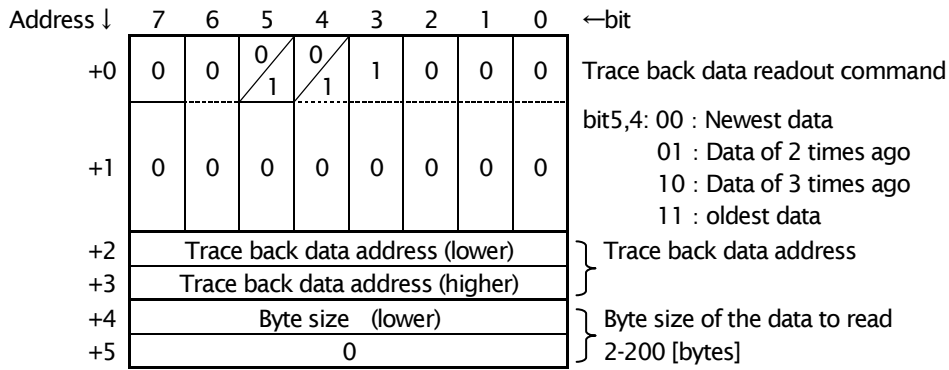

Figure 3.18 Data composition of the data write-in demand SDU (Trace back data readout command)
- 1) Master station transmits the data write-in demand shown in figure 3.18 to OPCN66-Z, and directs readout of trace back data, and trace back data address, and the total byte size of the data to read. Since all data sizes are 1 word (2 bytes), the byte size of data serves as even number. In the case of odd number, a part for 1 byte of the last data is disregarded. Moreover, a trace back data address specifies even number. In the case of odd number, a part for 1 byte of the last address is disregarded. The history of trace back data can be specified to four in the bits 4 and 5 of 1st word. A setup of a trace back data history is shown in the following table.